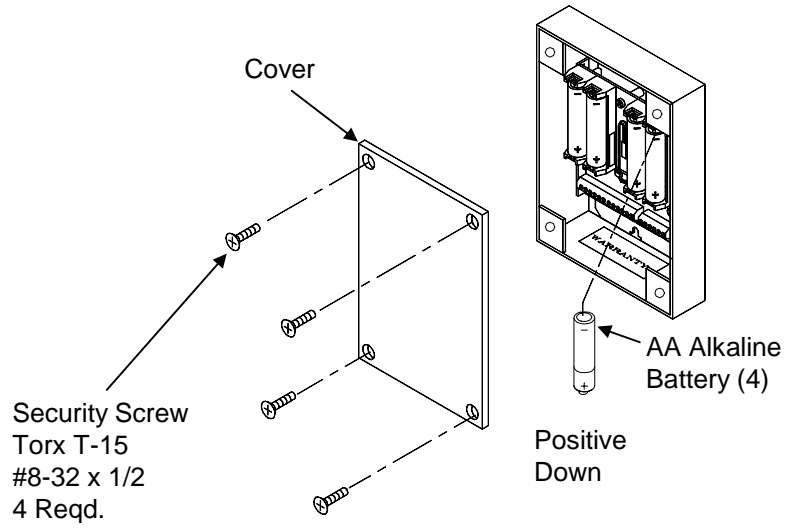

Figure 11 Weatherized Wall Mount System
Step 1 Unscrew the four Security Screws and remove the Cover (Figure 11).